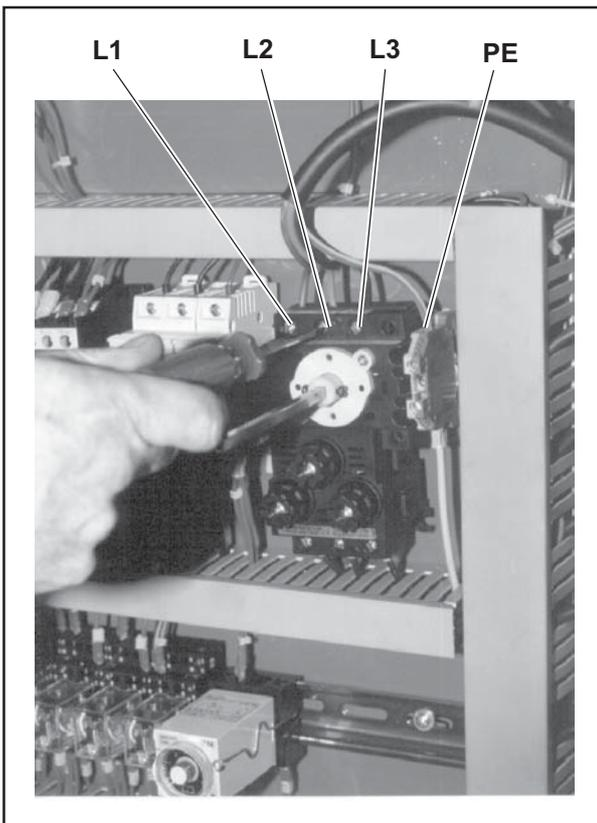

Fig. 3-5 Terminal board
Connect the power leads to the terminals (**L1-L2-L3**) of the master switch and the yellow green earth lead to the terminal (PE) (if neutral is connected, arrange terminal N) fig. 3-5.